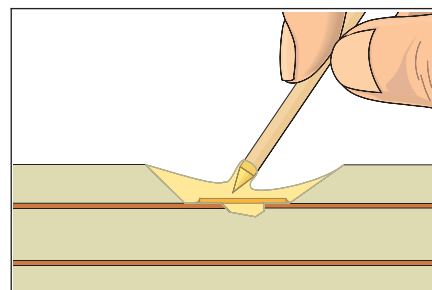

Figure 6 Coat the top and sides of the new conductor with epoxy.
15. Coat the top and sides of the replaced conductor with epoxy. The epoxy bonds the new conductor to the base board material and insulates the conductor. Continue adding epoxy up to the top surface of the printed wiring board or to the height of the next internal conductor. (See Figure 6.)